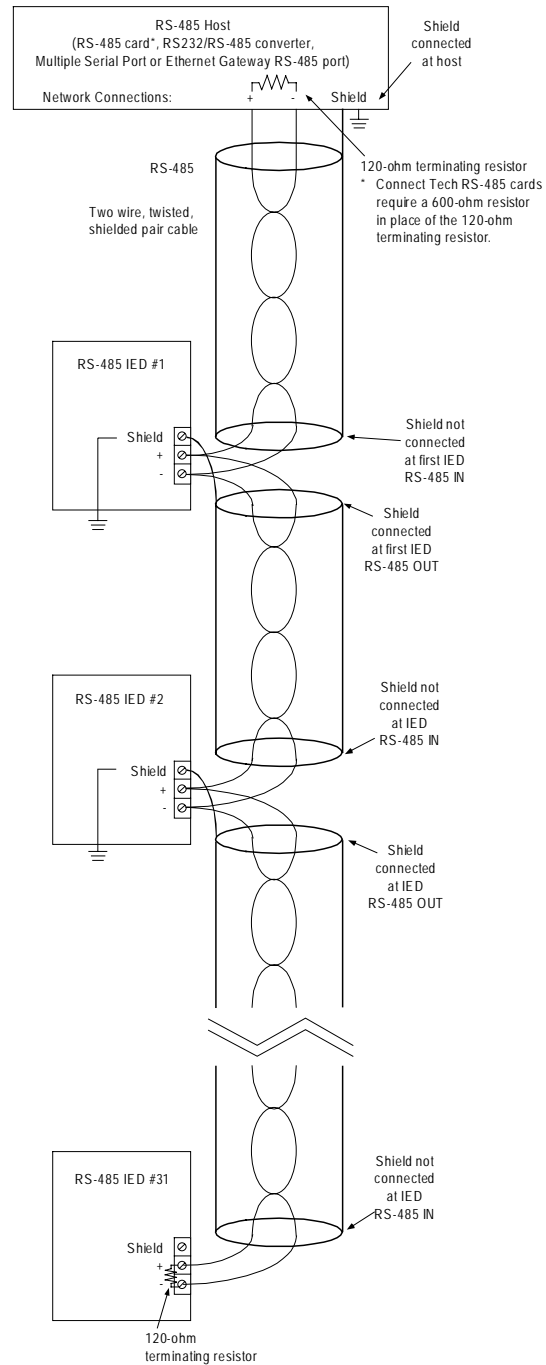

Figure 9. Network illustrating Modbus Rules 4 and 5.
4. Each RS-485 network must be properly terminated at both ends of the cable run after the final IED. (See Section 3–1 for details on termination.) Figure 9 illustrates this rule.
- Each RS-485 network must have its shield properly grounded. Figure 9 illustrates proper RS-485 wiring and grounding.